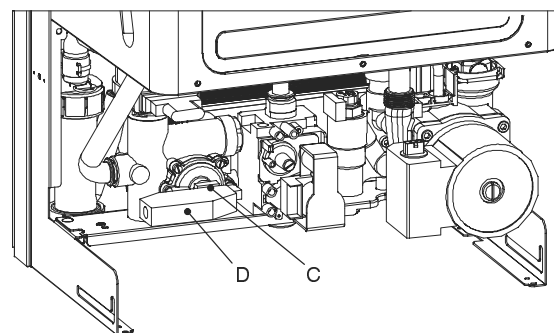

Fig. 12.4
- 2 Remove the fork C (Fig. 12.4).
- 2 Remove the fork C that holds the micro-switch housing D (Fig. 12.4).